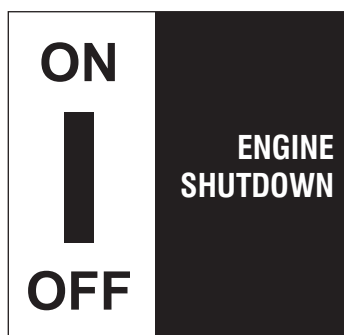

Figure 8 - Engine Shutdown Decal
8. See Figure 8. Apply supplied engine shutdown decal next to the switch.
11. See Figure 8. Apply supplied engine shutdown decals next to switches.